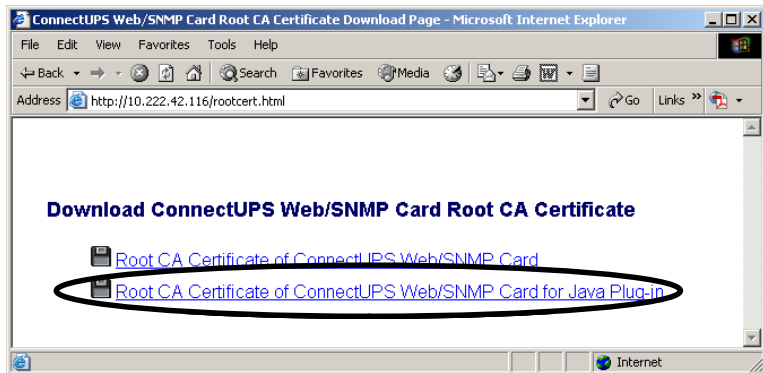

Figure 24. Download Page
2. Type `http://<IP Address>/rootcert.html` where <IP Address> is the one assigned to the card, and press Enter. The Download page opens (see Figure 24).